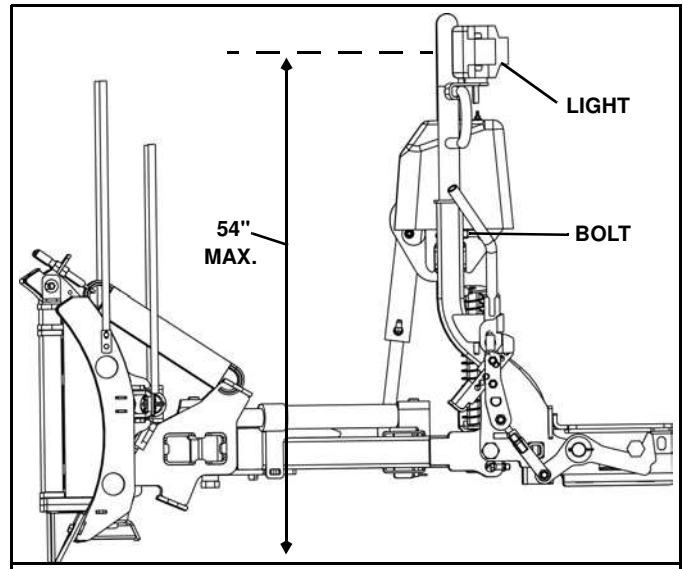

Figure 1-38
43. The height of the light bar is adjustable. Position light bar so that center of lights is 54" maximum off the ground when plow is on the ground. The lights should clear the plow when it is fully raised. (See Figure 1-38).